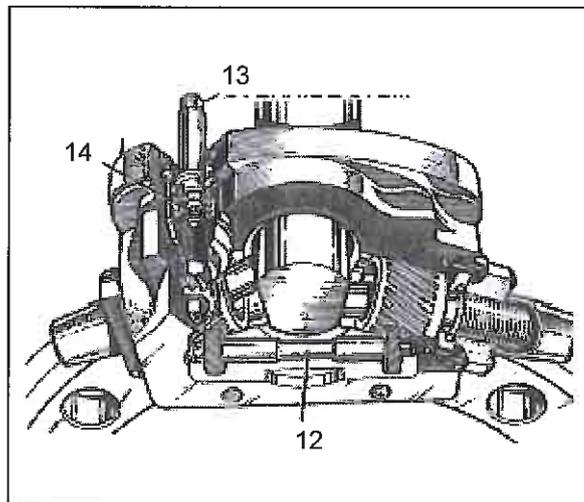

Fig 8
2a. Remove the expander/adjuster cover plate and cross shaft (12) (Fig. 8), take care not to damage the cover plate gasket.
NOTE: One full turn of the manual override stem (13) (Fig. 8) will adjust the shoes by approximately 0.50 mm (0.020in.).
3b. Remove the expander/adjuster cover plate and cross shaft (12) (Fig. 8), take care not to damage the cover plate gasket.
4a. Locate and turn the manual override stem (Fig. 8) in the opposite direction to forward wheel rotation at least four full turns. More may be necessary if there is a large difference in tool readings.